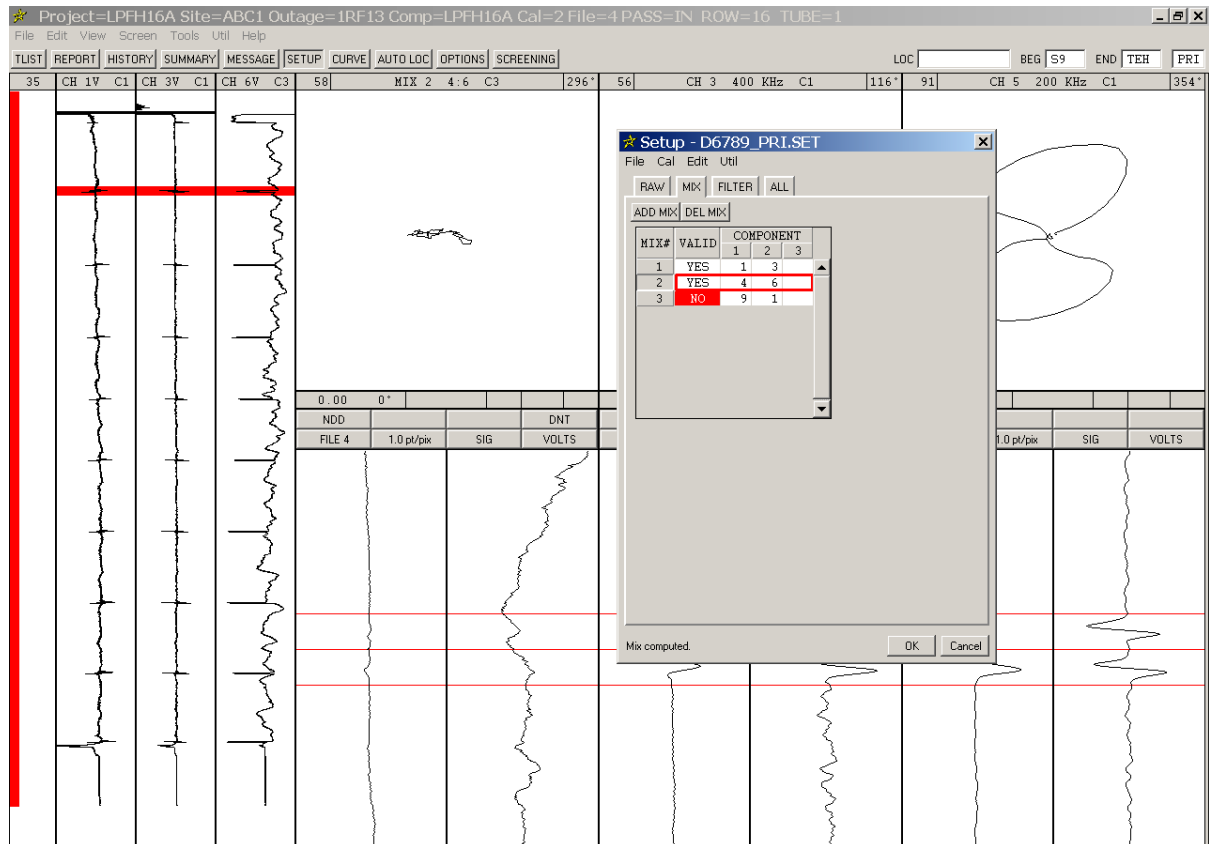

Figure 1-15. Setup Dialog - Mix Tab After Mixing Out TSP
- STEP 13:** Click the **Valid** field (*red*) for **Mix # 2**. The field turns white and displays **Yes**. The TSP absolute mix is now completed. The **Mix** tab of the **Setup** dialog should now look like Figure 1-15.